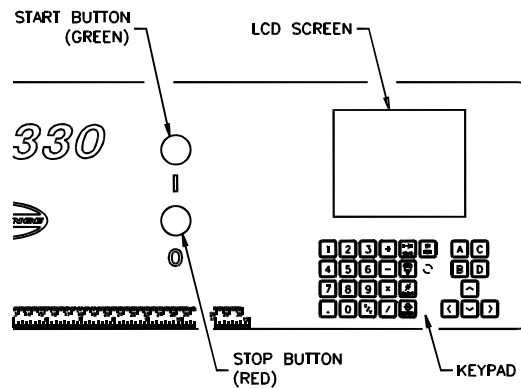

Figure 4-1. Stop Button Location
1. Figure 4-1. To preserve the status of each book in the job, press the stop button after the gripper transport releases a trimmed book, but before it clamps the next untrimmed book. If the untrimmed book is clamped by the gripper transport and not trimmed, it will be ejected onto the Exit Conveyor when the machine is restarted. The book can be manually placed onto the In-feed conveyor to be trimmed later.